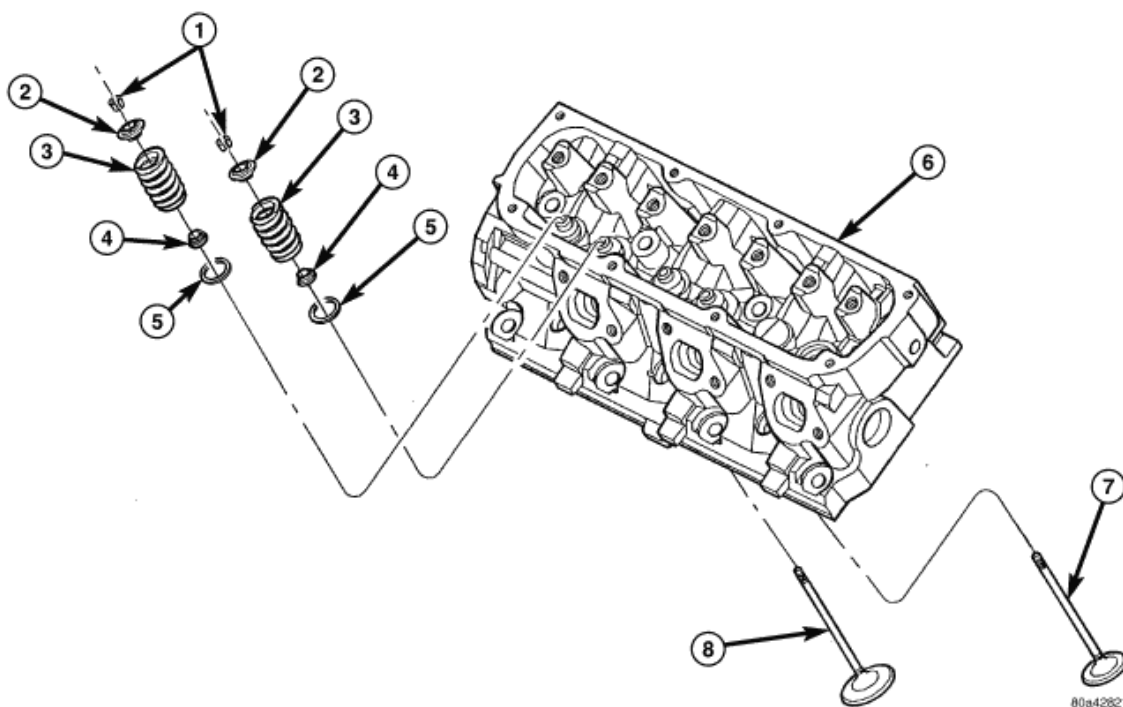

Fig. 97: Exploded View Of Spring Seats & Cylinder Head
1. Coat valve stems with clean engine oil and insert them in cylinder head. See **Fig. 97**.
2. Install valve spring seat on head. See **Fig. 97**.